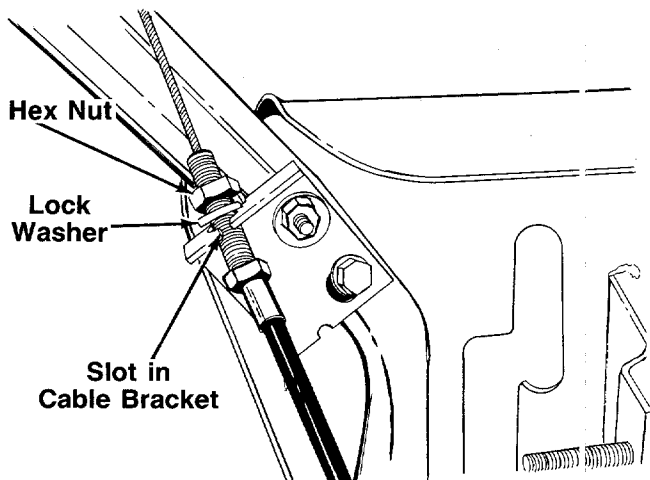

FIGURE 9.
1. Remove one nut and the lock washer from the end of the tine clutch cable (short cable). Slip the cable up through the slot on the cable bracket on the left handle. Rethread hex nut and lock washer on the end of the cable. See figure 9. Do not tighten at this time.